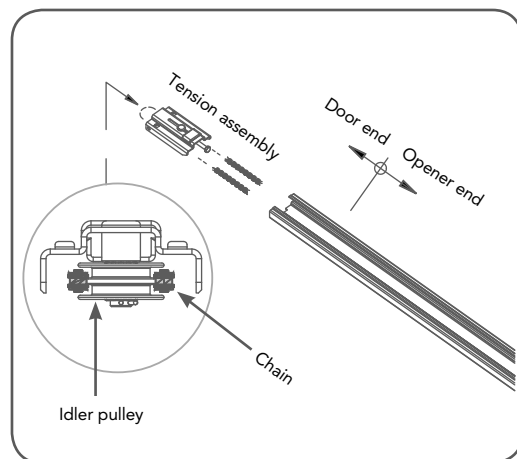

fig 06
- Loop the chain onto the pulley of tension chain assembly. Slide the tension chain assembly with chain into the track (**Fig. 06**).